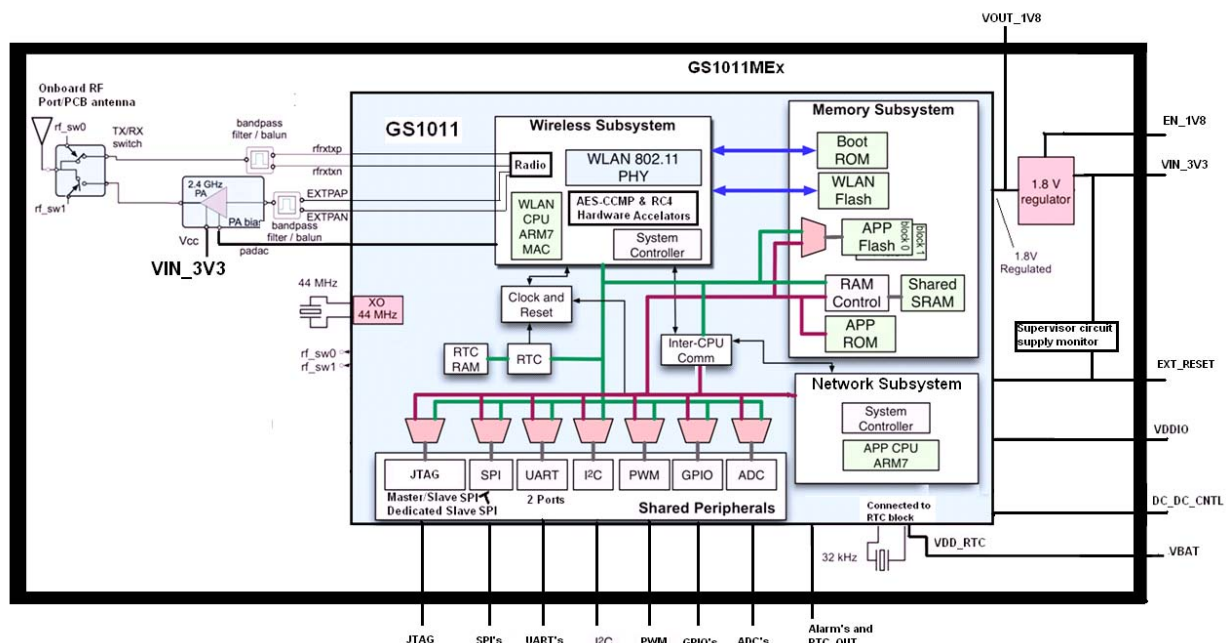

Figure 2-2: GS1011Mxx Block Diagram
- The extended range module option has a capability of +17dBm output power at the antenna (see Figure 2-2).